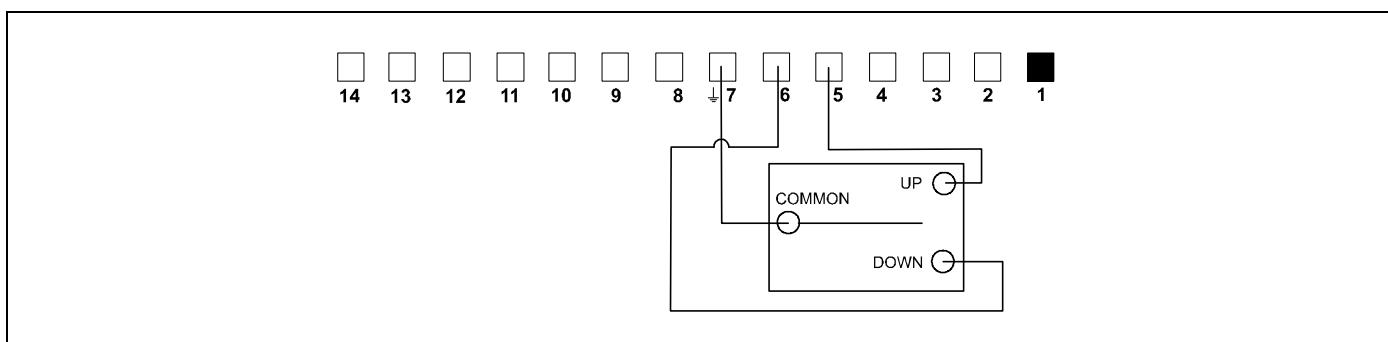

Figure 32
NOTE: If operation of the mount is required at a greater distance than remote control will allow, the mount can be controlled through a hardwired switch or similar device. See **Dry Contact Closures** section and (See Figure 32).
1. Connect the common wire from your switch to terminal 7. (See Figure 32)